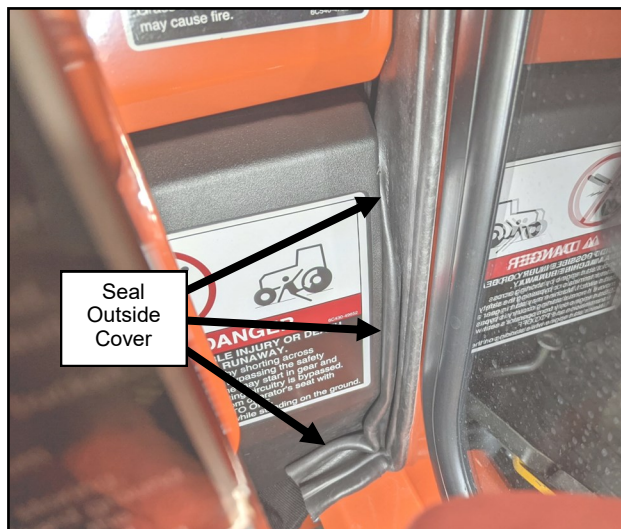

Fig. 6.3 (Left Side Of Cowl)
- 6.3 Pull the cowl seal out over the left side cover and keep it outside all the way to the front edge. See Figure 6.3.